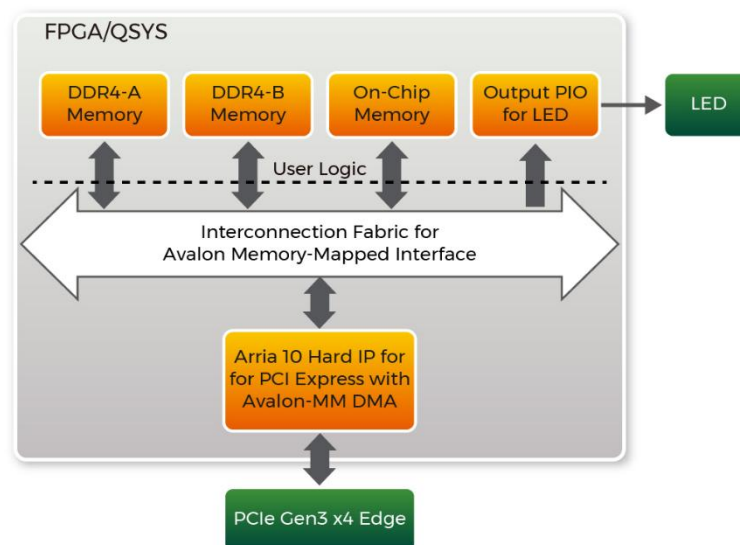

Figure 3-15 Hardware block diagram of the PCIe_DDR4 reference design
13. Type 4 followed by an ENTER key to select DMA DDR4-B Memory Test item. The DMA write and read test result will be report as shown in **Figure 3-15**.
Figure 3-15 shows the system block diagram in the FPGA system. In the Qsys, Altera PIO controller is used to control the LED, and the On-Chip memory and DDR4 Memory are used for performing DMA testing. The PIO controllers and the memory are connected to the PCI Express Hard IP controller through the Memory-Mapped